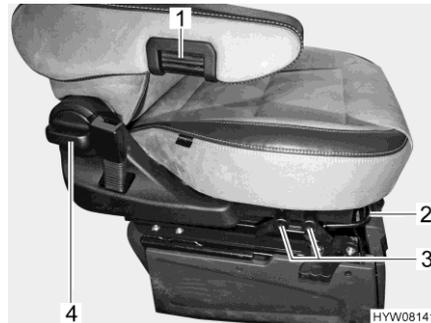

Fig. 16 Seat adjustment
- Pull the bar (Fig. 16,2) upwards.
- Pull the respective lever (Fig. 16,3) upwards.
- Turn the handle (Fig. 16,4).
- Turn the knurled wheel (Fig. 16,1) for fine adjustments. The armrest inclines upwards or downwards, depending on the rotation direction.